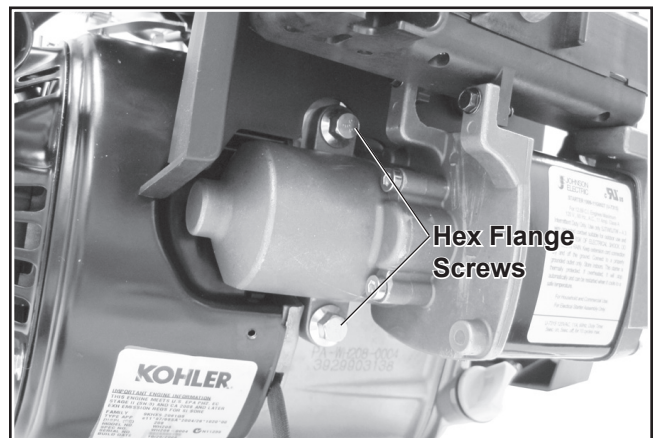

Figure 13. Remove Electric Starter.
- Remove the hex flange screws securing the electric starter to the crankcase, and remove the electric starter. See Figure 13.